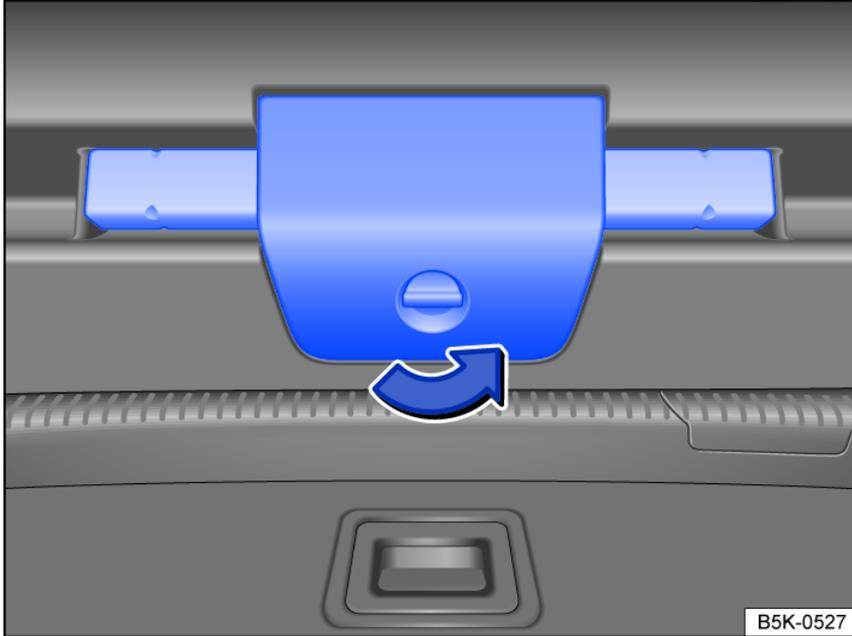

Fig. 69 In the trunk lid: open the holder for the warning triangle.
- Turn the catch of the holder for the warning triangle 90° counterclockwise *fig. 69*.